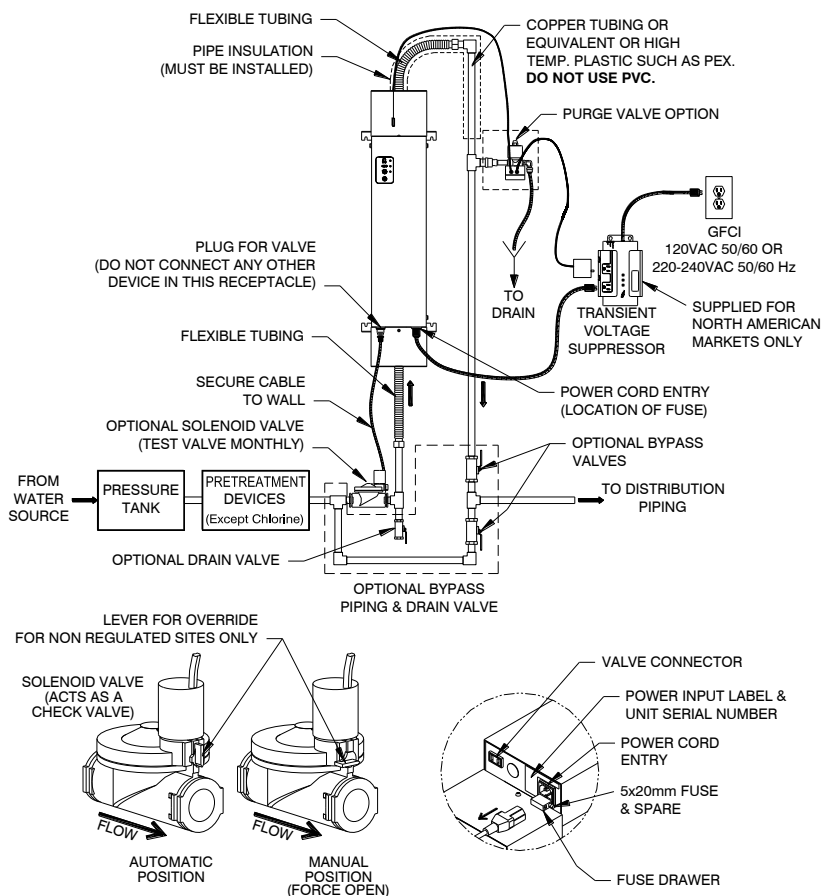

Figure 1B
There are two standard operating voltages for the Hallett unit. The unit may be 120Vac or 220-240 Vac. Please refer to the power input label located near the power cord entry of the unit. See Figure 1B. Record the operating voltage and serial on the front cover of the manual.
The Hallett requires 1" male NPT fittings for the hose connections and also the solenoid valve. These fittings and any piping compatible with the plumbing should be on hand before you begin installation. See Figure 1B and make a list of all necessary components including solder, paste and thread sealant. Bypass piping and valves that isolate the unit are optional, as is a drain valve for draining the unit.
Step 2: If you have decided to install an optional bypass line and drain, you may begin to install these fittings at this point. See Figure 1B for more information on how to connect optional bypass piping and drain.
Step 2: Plug the female end of the power cord into the power entry module located on the underside of the front panel. Note that the power entry module contains the only fuse for the unit, which can be accessed by pulling out the sliding fuse drawer. The power cord must be removed before changing the fuse. See Figure 1B